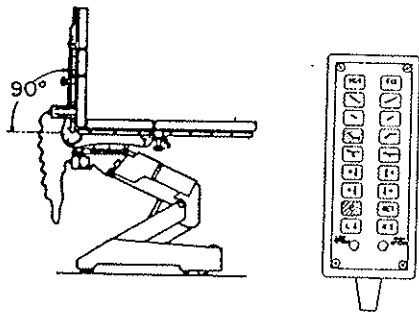
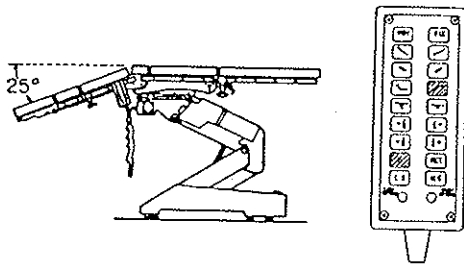

Figure 2-11. Back Section - Up
Figure 2-12. Back Section - Down
e. Back Section. To raise the back section, push both the BACK-UP and ENERGIZE buttons (figure 2-11.), the back section will raise up to 90° above horizontal. To lower back section, push both the BACK-DOWN and ENERGIZE buttons (figure 2-12.), the back section will go down to 25° below horizontal.